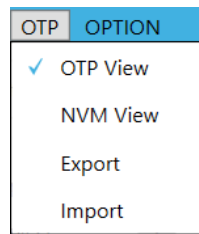

Figure 13: Select OTP View
3. Select “OTP View” from the OTP drop-down menu to enter OTP and MTP view (see Figure 13 on page 13).